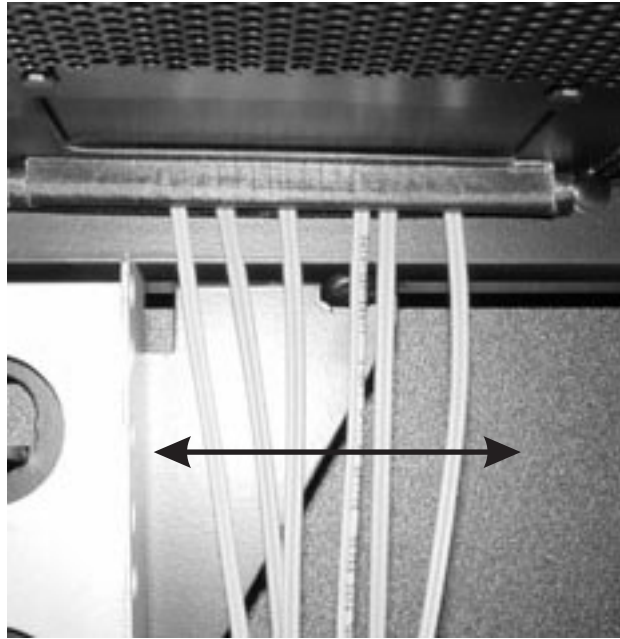

Figure 23. Positioning the Fibre Channel cable inside the frame
6. After you route the cables inside the frame, position them as shown in Figure 23 on page 112